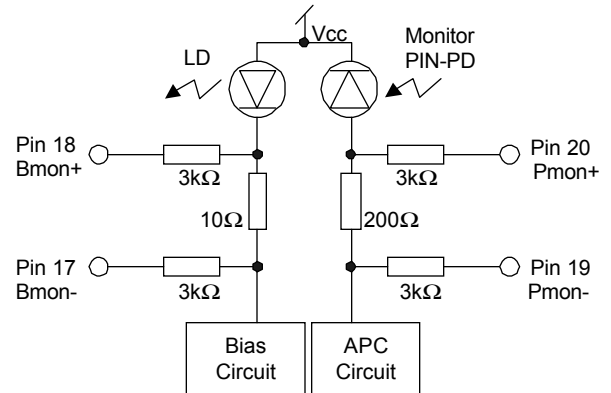

Figure 5. Bmon and Pmon Interface
2. Refer to figure 5 for details of Bmon and Pmon outputs.
9. The Laser Bias Monitor Current and Rear Facet Monitor Current are calculated as ratios between the corresponding voltages and current sensing resistors, 10Ω and 200Ω, as shown in the figure 5.